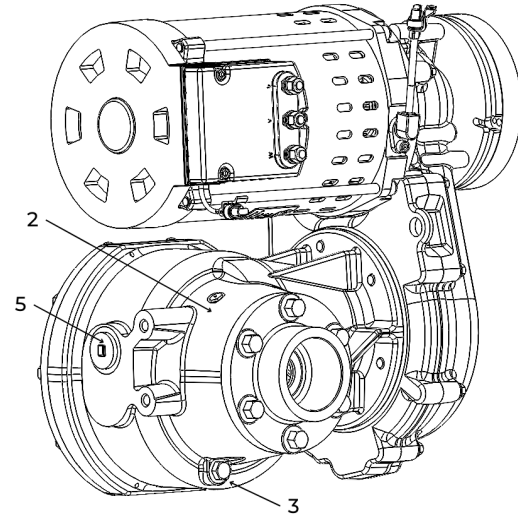

Figure 44. Cast-iron Case Drain and Filler Plugs.
3. Remove the cast-iron case filler plug (5). (Figure 44)